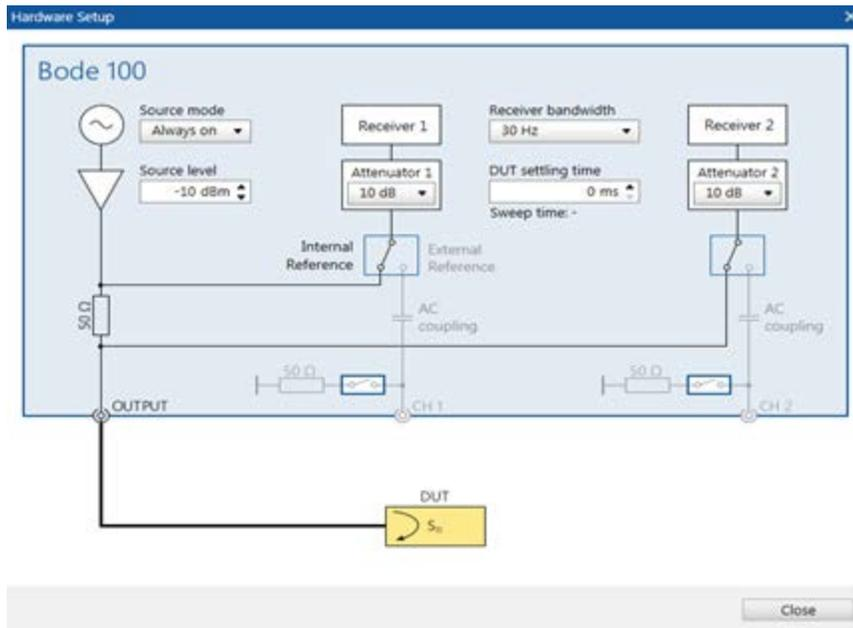

Figure 7. Hardware setup in Bode 100.
3. To configure the **Hardware Setup**, go to **Home | Impedance/Reflection** and only turn the switch of CH2 to the ON position; only use this channel for V_{IN} and V_{OUT} of the MAX38902A/B, one at a time. Note that either CH1 or CH2 can be used for this measurement, even though we use CH2 here (see **Figure7**).